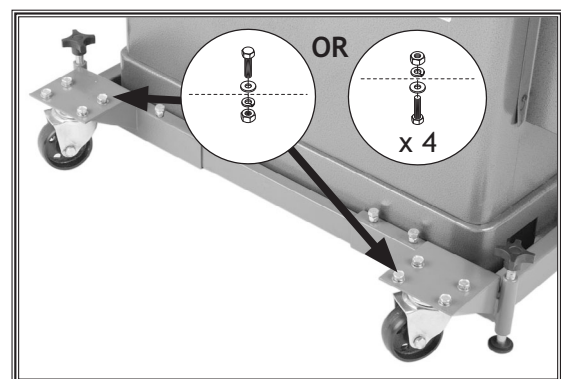

Figure 24. Swivel casters installed.
21. Mount each of the swivel casters to a front corner bracket using (4) M8-1.25 x 16 hex bolts, 8mm flat washers, 8mm lock washers, and M8-1.25 hex nuts, as shown in **Figure 24**.